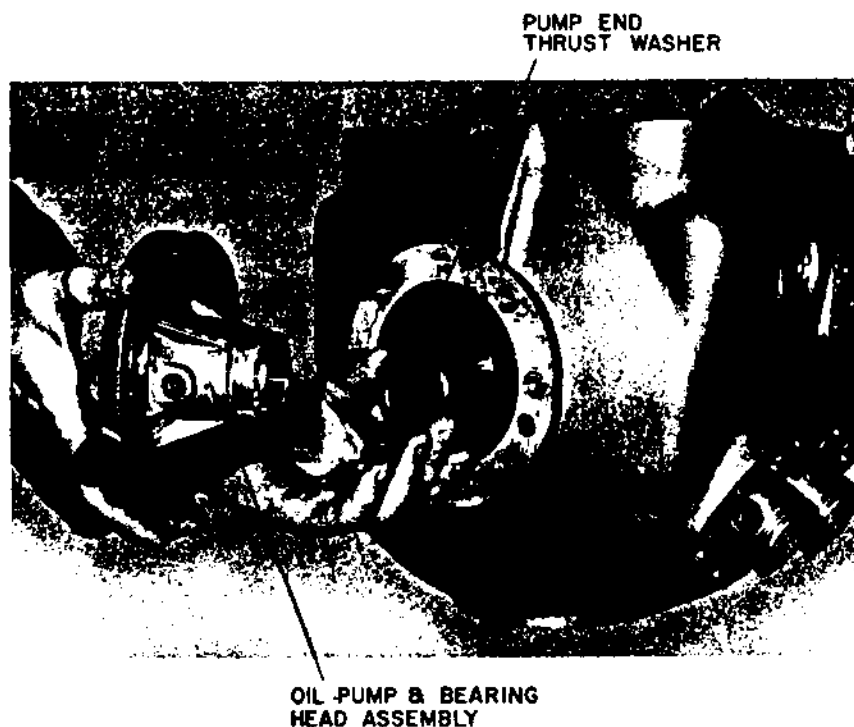

Figure 3-10. Oil Pump Bearing Head Assembly and Thrust Washer Removal
c. Remove eight capscrews and remove oil pump bearing head assembly, gasket, and thrust washer. Disassembly and repair of the pump and bearing head assembly will be accomplished during inspection and before reassembly. (See figure 3-10.)